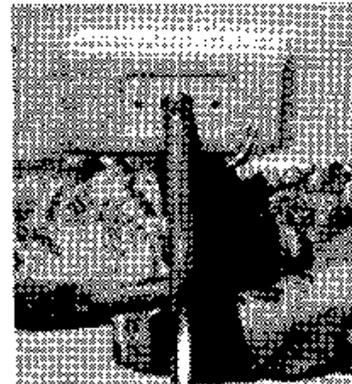

Fig. 5
16. In the slideout area, insert bed bow support pole at bow peg. Push bow outward and upward until flat end will slip into bracket mounted on roof. Fig. 5
17. Insert bed bow support pole at bow peg. Push bow outward and upward while pressing on button farthest from the end and slip into bracket mounted on roof. Release button. Fig. 5
5. Remove bow braces located in the bed and slideout areas from bracket on the roof and pull brace to center of coach. Remove from peg on bed bow. Place bows under bed mattress. Fig. 5